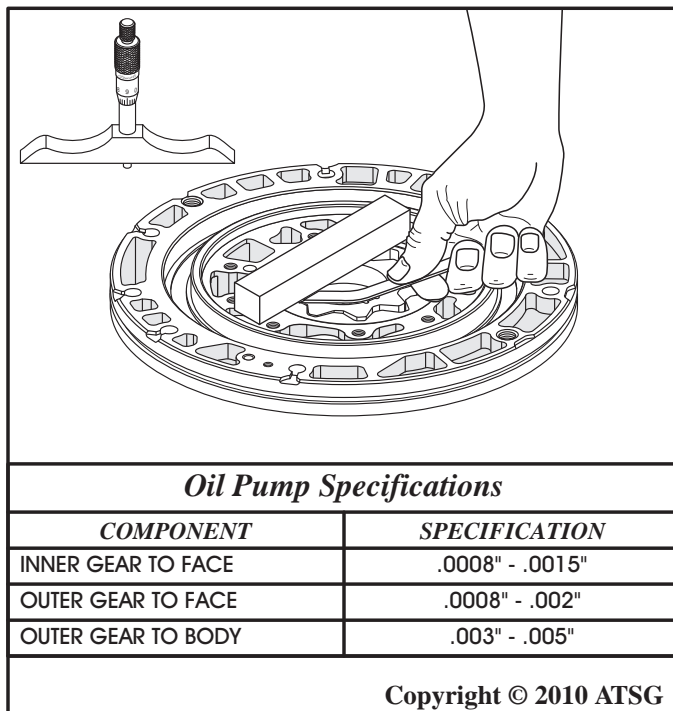

Figure 159
10. Measure the gear to face clearance on both the inner and outer gerotor using a feeler gage or a depth micrometer, as shown in Figure 159.
**Note:** Pump specifications are in Figure 159.